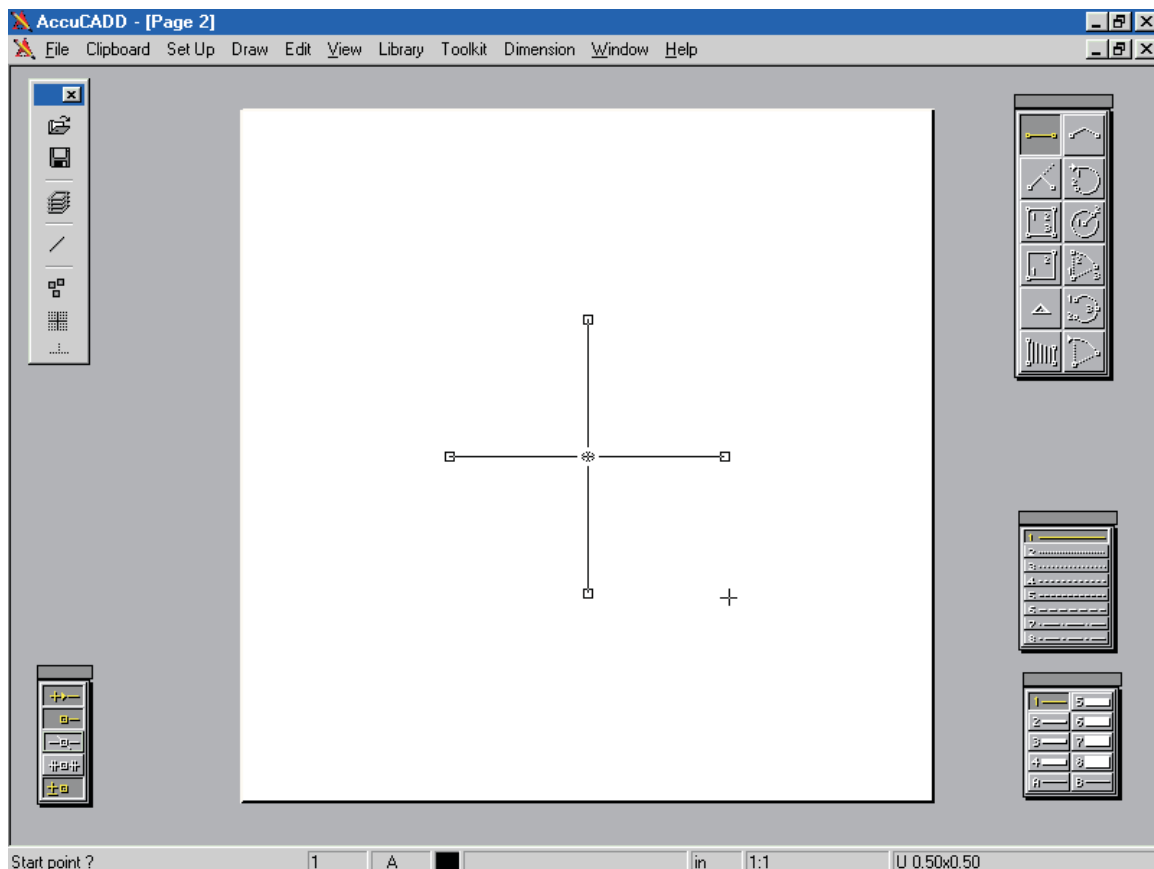

Figure 35: Cross to be inserted as a center marker
- Select New Page from the File menu. If Page 2 is already in use, use Page 2 from the Window menu, and Wipe it. Set the paper size to 0.5" x 0.5". Draw the cross shown in Figure 35. It measures 0.2" x 0.2" (end-to-end). Plant a handle at the center of the cross, then File it.